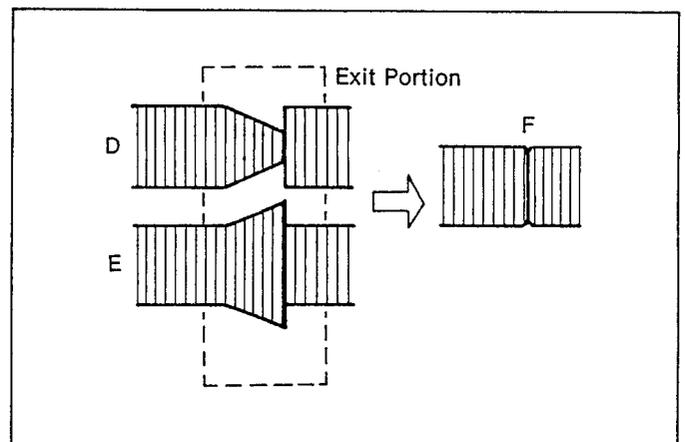

Fig. M22
5. If the RF envelope appears like example "D" or "E" in Fig. M22, then adjustment of the tape guide post (P3:Exit) is necessary.
6. Adjust the tape guide post (P3) in the same manner as the P2 post so that the exit portion becomes flat as shown in Fig. M22-"F".